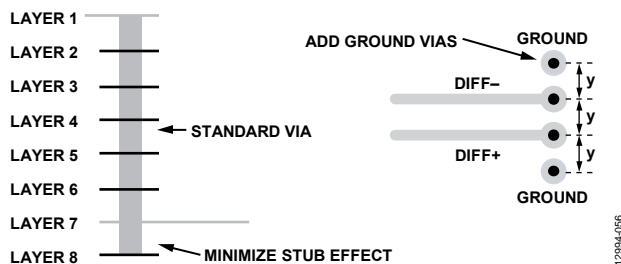

Figure 76. Minimizing Stub Effect and Adding Ground Vias for Differential Stripline Traces
- If using standard vias, use the maximum via length to minimize the stub size. For example, on an 8-layer board, use Layer 7 for the stripline pair (see Figure 76).
- For each via pair, place a pair of ground vias adjacent to them to minimize the impedance discontinuity (see Figure 76).